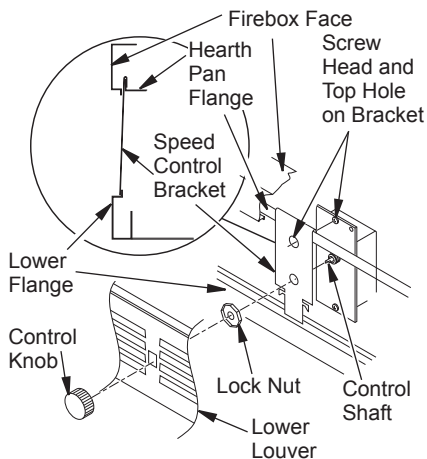

Figure 12 - Attaching Speed Control to Firebox with Panel Louvers
5. Position speed control bracket over flange on hearth pan by sliding it up between firebox face and hearth pan flange, then down until seated onto lower flange of louver opening (see Figure 12, page 14).
6. Mount speed control box by placing plastic control shaft through bottom hole on speed control bracket. Top screw head on control box will fit inside top hole on bracket (see Figure 12 on page 14). Se-
8. Place louver panel, louvers pointing up, back into framed opening. Align control shaft with rectangular opening by sliding control bracket along flange (see Figure 12 on page 14).
10. Place control knob, provided, onto control shaft (see Figure 12).